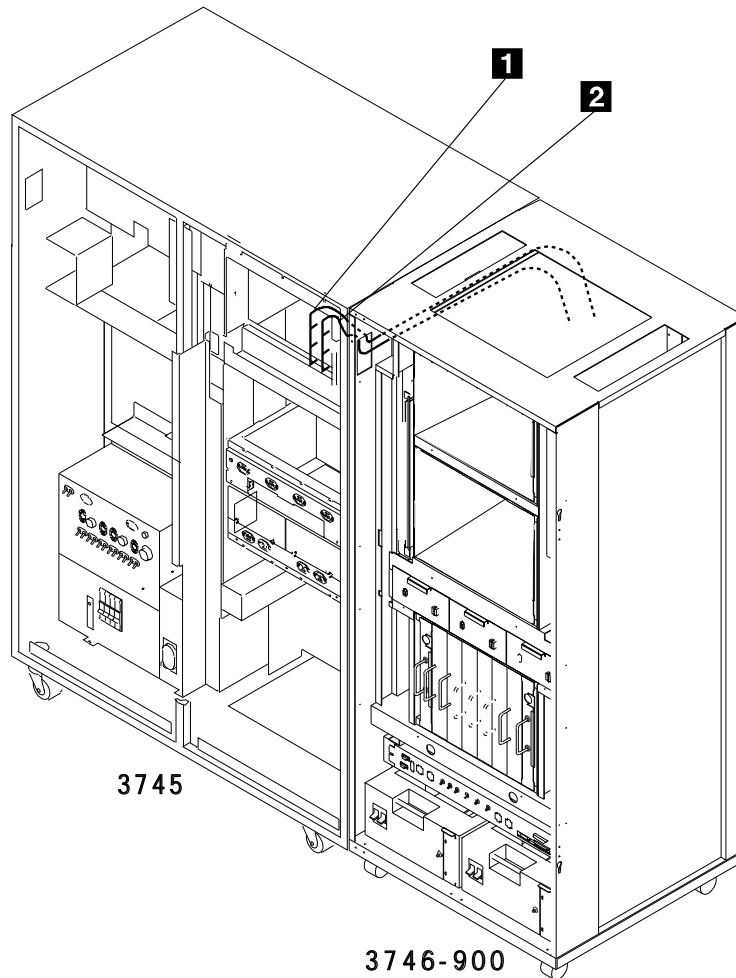

Figure 4-18. Routing of the IOC and DMA Cables From the 3746-900 to the 3745 Base Frame
- Step 13. ____ Unroll and route cables **1** and **2** through the upper side windows from the 3746-900 to the 3745 at board 01G-A1 (see Figure 4-18).
- Step 1. ____ In the 3745, locate the four DMA flat cables **1** (see Figure 4-18 on page 4-19). Cables **1** should be labeled: To 3745 W02, W03, W04, and W05.